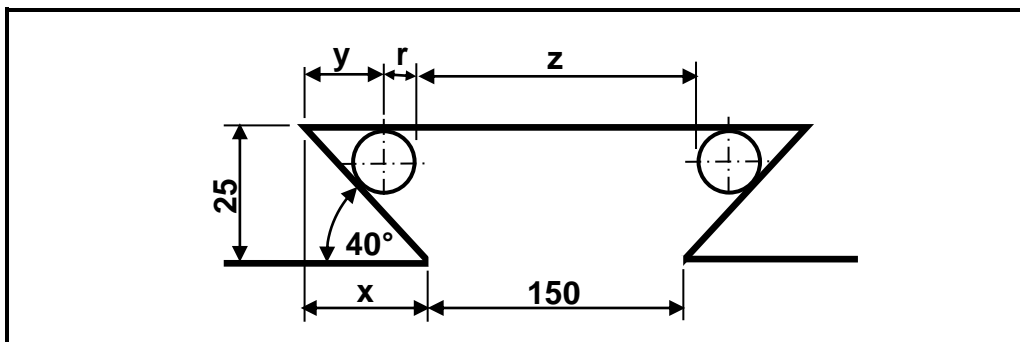

FIGURE 6.4
6.4 FIGURE 6.4 below shows a dovetail groove. Calculate distance **Z** between the rollers in the figure. Ø10 mm rollers are used for the measuring.